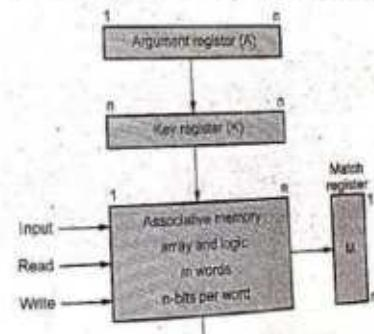

Fig. 7.9.1 Block diagram of associative memory
The Fig. 7.9.1 shows the block diagram of an associative memory. It consists of memory array with match logic for  $m$   $n$ -bit words and associated registers. The argument register (A) and key register (K) each have  $n$ -bits per word. Each word in memory is compared in parallel with the contents of the argument register. The